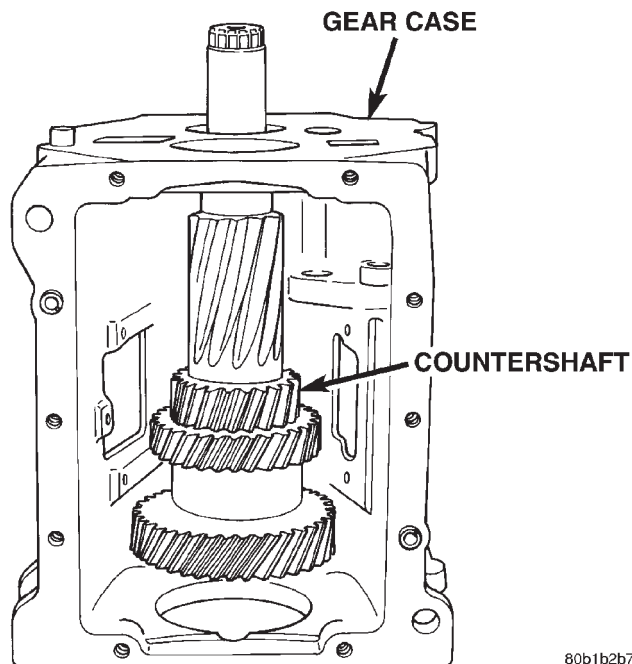

Fig. 80 Positioning Countershaft In Gear Case
(2) Lubricate countershaft front bearing cup and cone with petroleum jelly.
(3) Position gear case on end with rear of case facing up (Fig. 80).
(4) Install countershaft in gear case (Fig. 80). Do not install rear countershaft bearing on countershaft at this time.